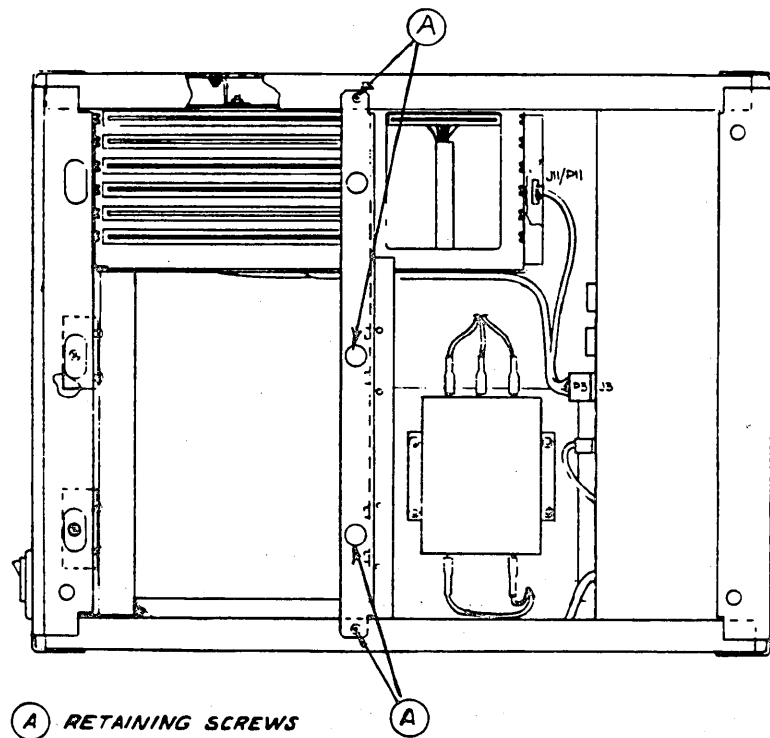

Figure 4-5. Top Angle Bracket Retaining Screw Locations
4. Remove four screws securing the top support angle bracket to the chassis and both drives. (Refer to Figure 4-5.)